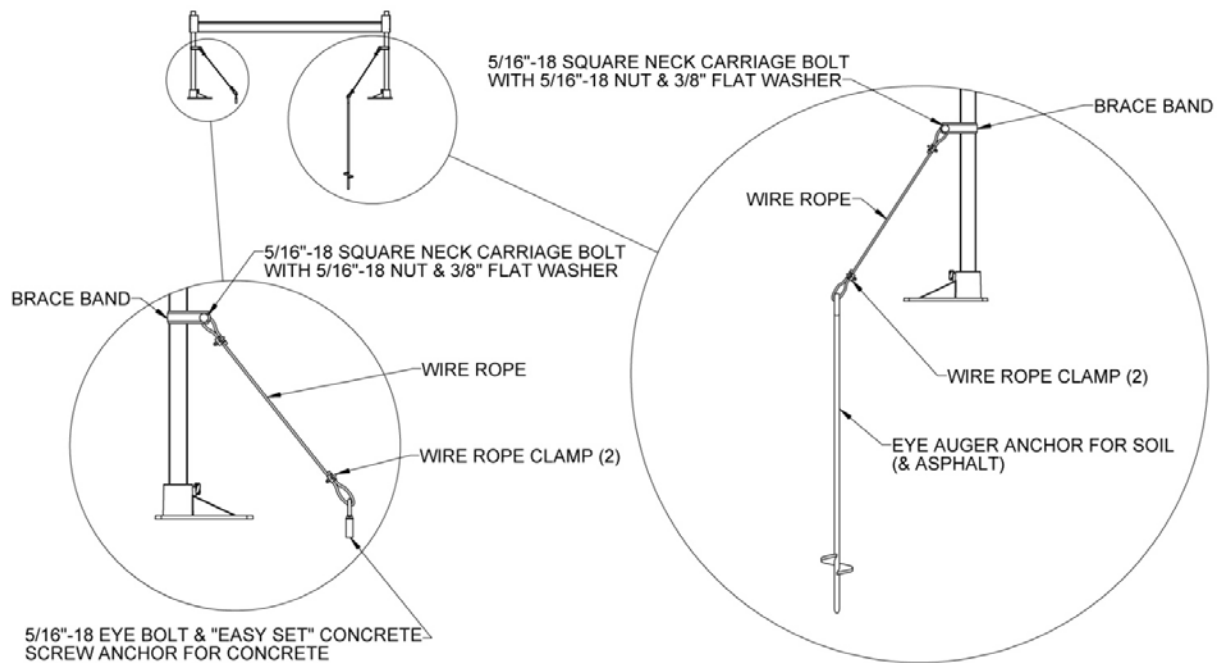

FIG. 7.11
- 7.7.1. For platforms, install one tie down at each corner where a support tube is installed (FIG 7.11).